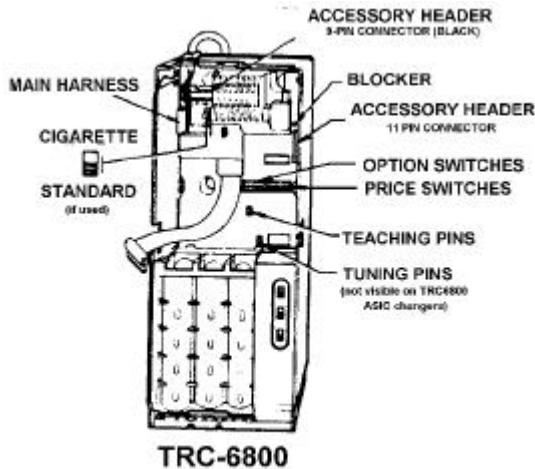

FIGURE 1: Location of teaching pins TRC-6800 TRC-6200
- Short the two teaching pins (upper set of pins on TRC6800) by touching both simultaneously with the tip of a conductive screwdriver (See FIGURES 1, 2, 3 or 4).